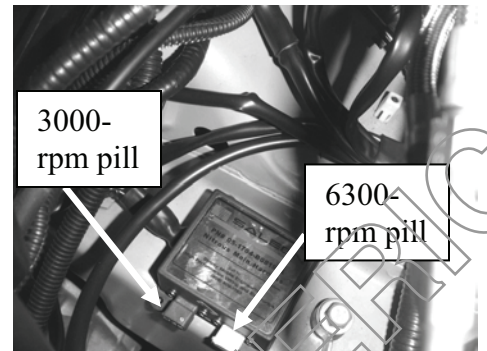

FIGURE 39
63. Plug the supplied RPM pills into the window switch (this is part of the main wiring harness). The 3000rpm plug (00-1904-C08276*) is for the “ON” position and the 6300rpm (00-1904-C08277*) for the “OFF” position. **(FIGURE 39)**